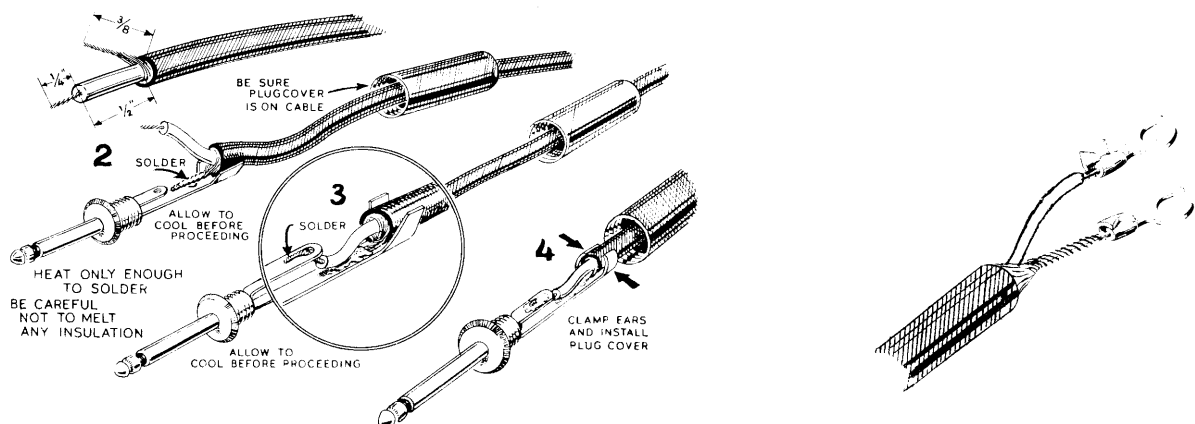

Figure 18
- (2) Locate the length of single conductor shielded wire. Referring to Figure 18, strip the outer jacket off one end for a distance of 1", unwind the shield wire, twist and tin. Strip and tin $3/8$ " of the center conductor. Now solder a terminal spade lug on each tinned lead. On the other end of the shielded wire, place a phone jack as shown.